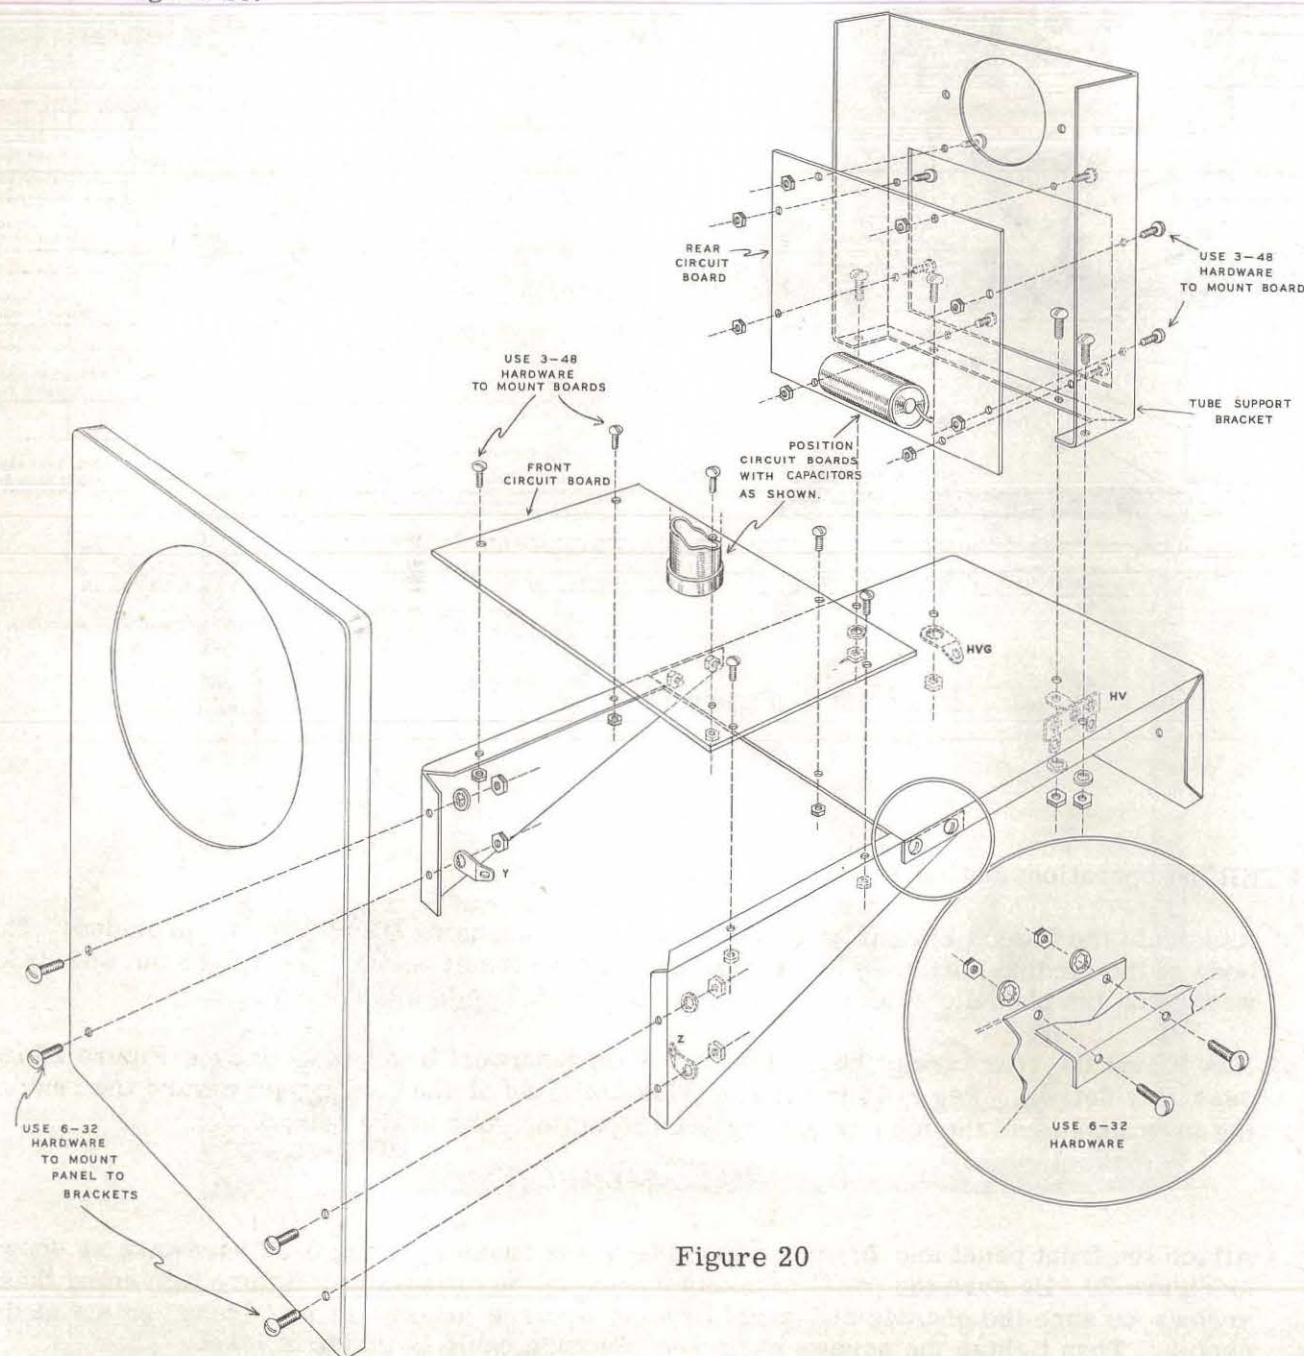

Figure 20
- (✓) Connect the bare wire (previously soldered to TT1) to RR (S), the VERT. INPUT binding post.
- (✓) Connect the bare wire (previously soldered to HH3) to TT2 (S).
- (✓) Connect the bare wire (previously soldered to HH2) to UU1 (S).
- (✓) Connect the bare wire (previously soldered to UU2) to RRG (NS) (use sleeving), the VERT. GND. binding post.
- (✓) Connect a short wire from RRG (S) to the solder lug Y (NS).
- (✓) Connect the short bare wire (previously soldered to LL3, the EXT. SYNC. AMPLITUDE control) to Y (S).
- (✓) Connect the short bare wire (previously soldered to XXG, the HOR. GND. binding post) to lug Z (S). (See Figure 20).
- (✓) Now mount the rear circuit board inside the tube-support bracket, following Figure 20 for assembly details. Use 3-48 hardware. The foil side of the board goes toward the rear of the instrument and the tubular electrolytic capacitor goes at the bottom.
- (✓) Attach the front panel and bracket assembly to the chassis, using 6-32 hardware as shown in Figure 20. Be sure the panel brackets go inside the chassis lip. Before tightening these screws be sure the chassis and panel bracket lips are aligned so no "droop" exists at the center. Then tighten the screws securely. Be sure cable is inside bracket.
- (✓) Mount the tube-support bracket to the chassis, using 6-32 hardware. It will be helpful to insert the screw under the tubular electrolytic capacitor before the bracket is placed on the chassis. Pass this screw through its hole in the chassis, add a 2-lug terminal strip HV, a lockwasher and a nut. See Figure 20.
- (✓) Next, install the similarly placed screw on the left side of the chassis, mounting solder lug HVG under the chassis as shown in Figure 20.
- (✓) Mount the front circuit board to the chassis and panel brackets, using 3-48 hardware as shown. Be sure the board is positioned as shown, with the filter capacitor to the rear. See Figure 20.